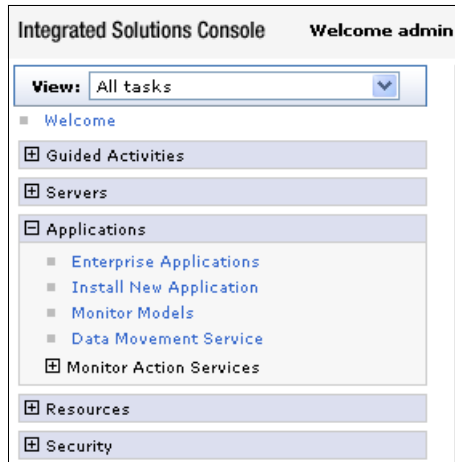

Figure 10-81 Selecting Install New Applications
1. In the administrative console (Figure 10-81 on page 722), expand **Applications** and click **Install New Application**.